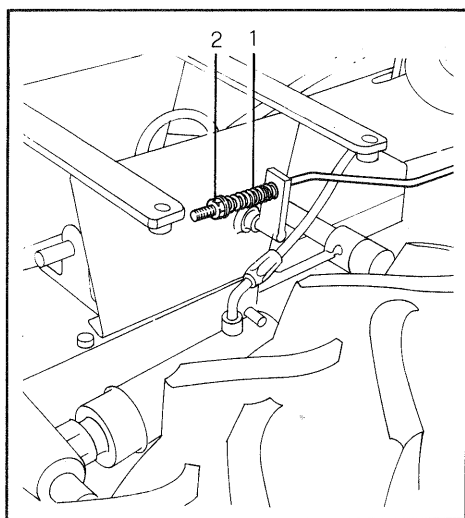

Fig. 23 - Bild 23
Se necessario aumentare il carico della molla di richiamo (fig. 23, particolare 1) stringendo il dado di regolazione (2).
Either from time to time or whenever any trouble is experienced, the differential lock control assembly should be inspected. If needed, increase the return spring load (fig. 23, part 1) by tightening adjusting nut (2).
Augmenter au besoin la charge du ressort de rappel (fig. 23, détail 1) en serrant l'écrou de réglage (2).
Falls erforderlich, die Belastung der Rückzugfeder (Bild 23, Detail 1) durch Anziehen der Einstellmutter (2) erhöht werden.